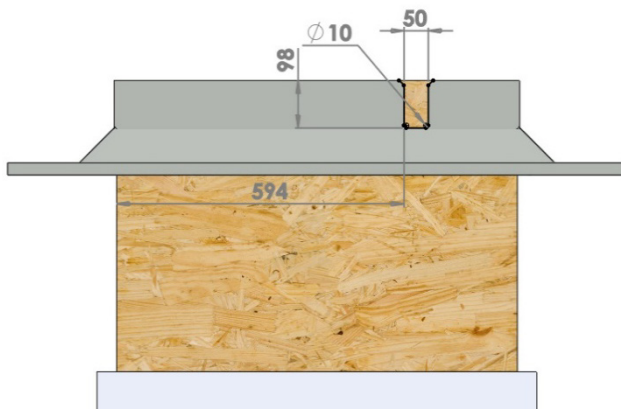

Figure 21 – Upstand cut-out section.
1. Mark out shape as per diagram – *see figure 21*.